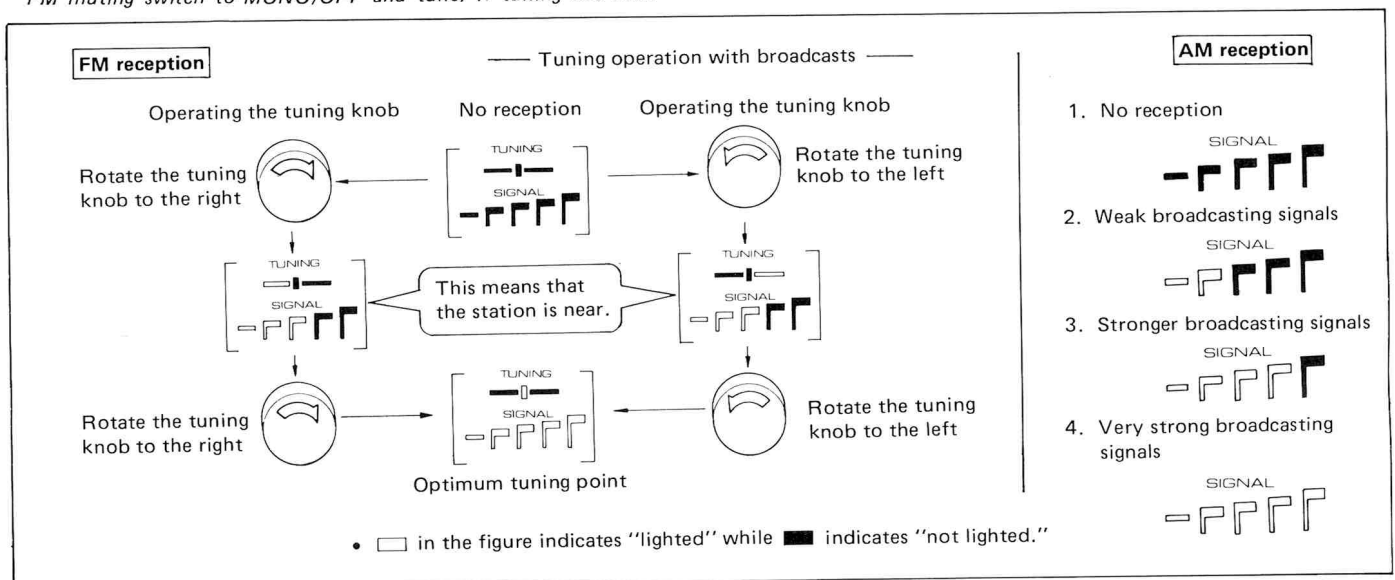

Fig. 10
3. Rotate the tuning knob and tune in the station whose program you want to listen to. Adjust the knob so that the most signal indicators light up and the center tuning indicator lights up as shown in Fig. 10.
3. Rotate the tuning knob and tune in the station whose program you want to listen to. Adjust the knob so that the most signal indicators light up as in Fig. 10. (Adjust the AM bar antenna at the rear for optimum reception).